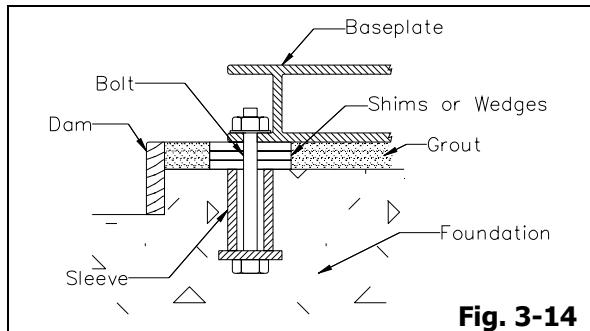

Fig. 3-14
2. Built dam around foundation. Thoroughly wet foundation (Fig. 3-14).